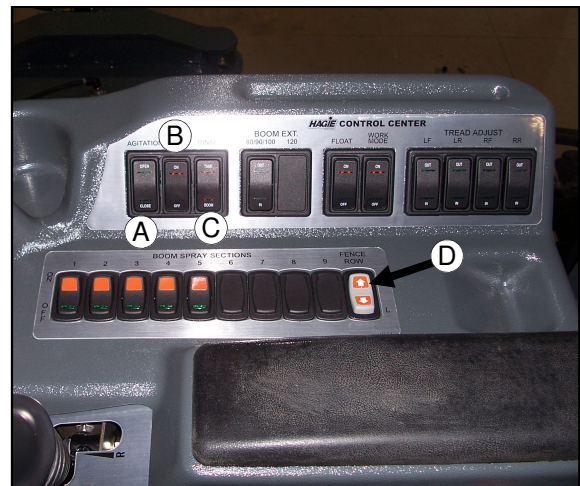

FIG 69-2
2. Close the solution tank valve (fig. 69-2).
3. Depress the “SOLU TANK” rinse switch (fig. 69-2, item C).
2. Turn agitation OFF (fig. 69-2, item A).
3. Close solution tank valve (fig. 69-2, item B) and open boom supply valves (fig. 69-2, item D).
4. Depress the “BOOM” rinse switch (fig. 69-2, item C).